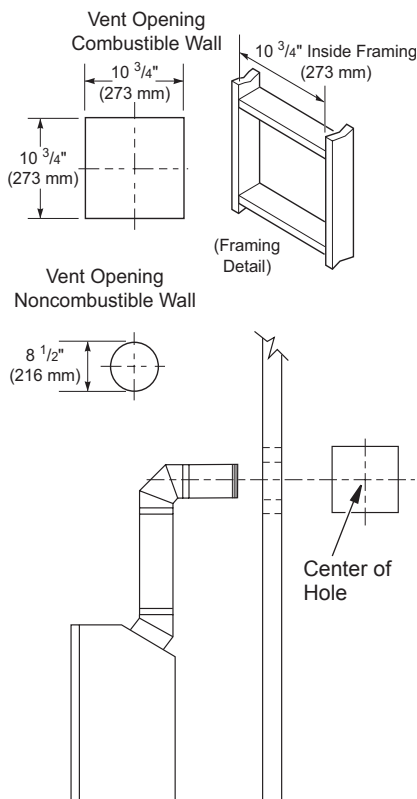
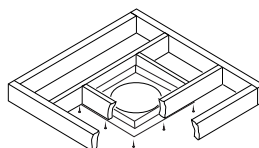

Figure 9 - Vent Opening Requirements
Figure 20 - Installing Firestop
5. Carefully determine the location where the vent pipe assembly will penetrate the outside wall. The center of the hole should line up with the center-line of the horizontal vent pipe. Mark the wall for a 10 3/4" x 10 3/4" square hole. Cut and frame the square hole in the exterior wall where the vent will be terminated. If the wall being penetrated is constructed of noncombustible material, such as masonry block or concrete, a 8 1/2" hole with zero clearance is acceptable (see Figure 9).
1. Cut a 10 ³/₄" square hole in the ceiling using the locating hole as a center point. The opening should be framed to 10 ³/₄" x 10 ³/₄" (273 mm x 273 mm) inside dimensions, as shown in Figure 9 on page 10 using framing lumber the same size as the ceiling joists. If the area above the ceiling is an insulated ceiling or a room, nail firestop from the top side. This prevents loose insulation from falling into the required clearance space. Otherwise, install firestop below the framed hole. The firestop should be installed with no less than three nails per side (see Figure 20).
3. Cut a hole in the roof using the locating hole as a center point. (Cover any exposed open vent pipes before cutting hole in roof.) The 10 ³/₄" x 10 ³/₄" hole must be measured on the horizontal; actual length may be larger depending on the pitch of the roof. There must be a 1" clearance from the vent pipe to combustible materials. Frame the opening as shown in Figure 9, page 10.